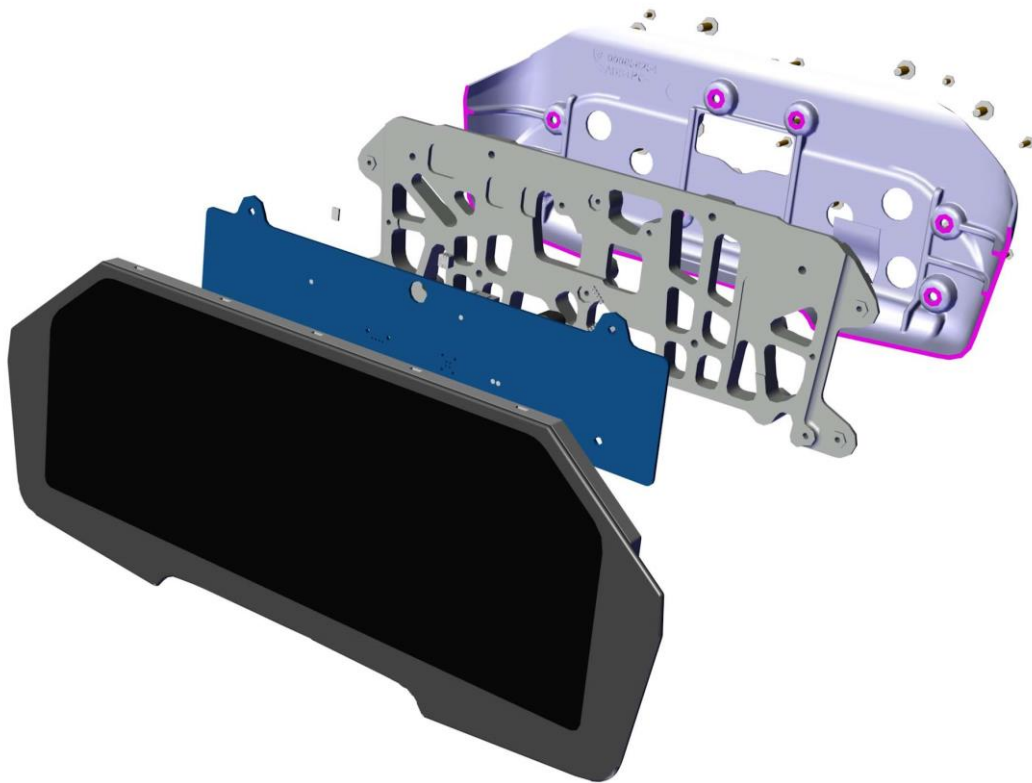

Figure 2 – Cluster Display Assembly
- Cluster Display Assembly - Figure 2